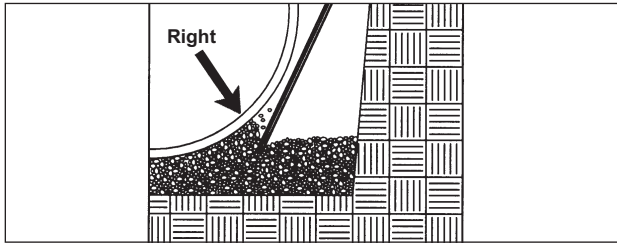
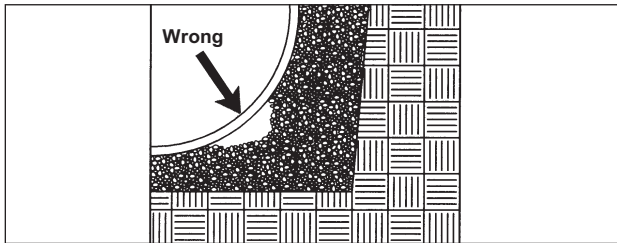

FIGURE 8-1
FIGURE 8-2
8.2.10. Place one 12-inch lift of approved backfill material evenly around the tank. From the edge of the hole or the top of an adjacent tank, push the backfill in place by using a nonmetal probe long enough to reach beneath the tank. Work the backfill material under the tank body and domes so the tank is fully supported – that is, so there are no voids under the tank. (See FIGURE 8-1 and FIGURE 8-2.)